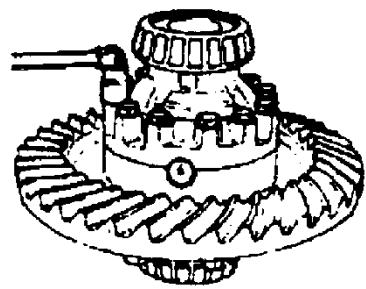

Figure 3-11
- 1) Removing the right cover of the differential (Figures 3-11 and 3-12).